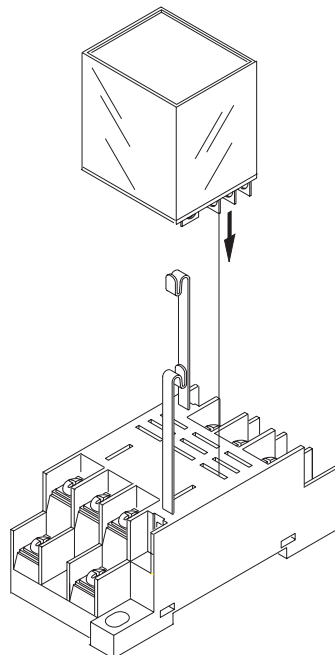

Figure 3
- Once a suitable location is determined, mark the screw holes onto the box. Drill the holes for the #6-32 x 5/8 pan head screws. Install the base into the box utilizing the (2) #6-32 x 5/8 pan head screws and (2) 11-176005-001 keps nuts.
- Insert 11-696644-000 relay into base and secure the clips over the top of the relay. Refer to *Figure 3*.